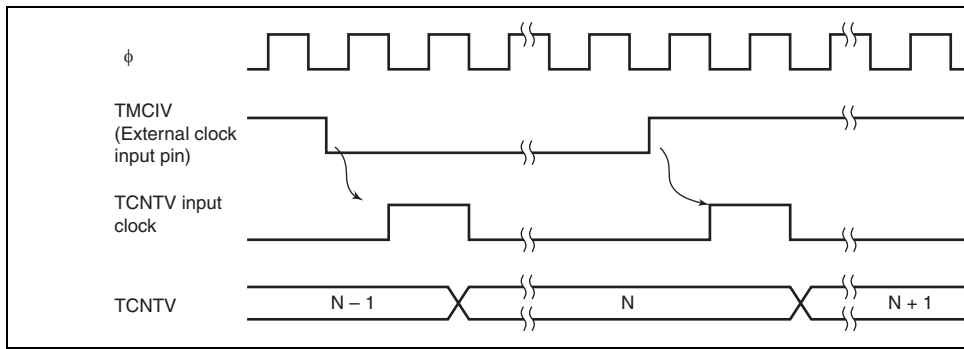

Figure 11.3 Increment Timing with External Clock
1. According to table 11.2, six internal/external clock signals output by prescaler S can be selected as the timer V operating clock signals. When the operating clock signal is selected, TCNTV starts counting-up. Figure 11.2 shows the count timing with an internal clock selected, and figure 11.3 shows the count timing with both edges of an external clock selected.